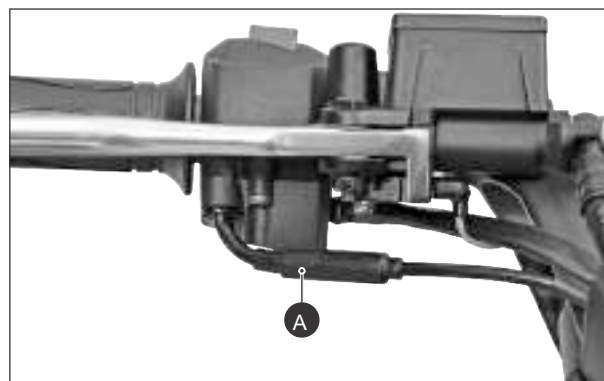

Fig. 2.70
- For checking the cable assembly throttle (throttle cable) free play, first dislocate the boot throttle (A) from its position. (Fig. 2.70)